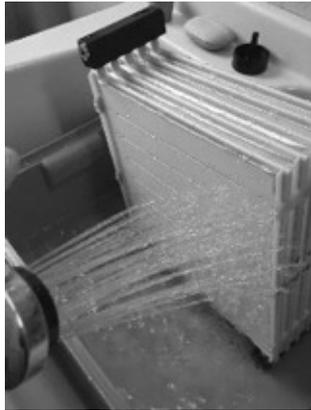

Fig. 17: Washing off dust
- Carefully wash off the traces of dust using a hand-held shower head set to a soft water jet (see Fig. 17). The internal humidifier elements can also be cleaned like this.